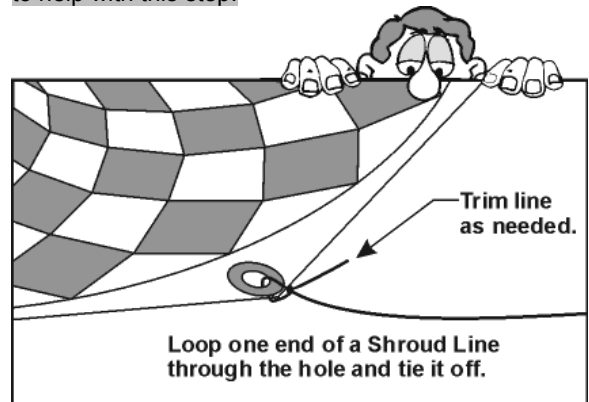

Figure 17
17. Referring to **Figure 17**, tie one of the Shroud Lines to one of the holes you made in a tape disk. **ADULTS** may wish to help with this step.